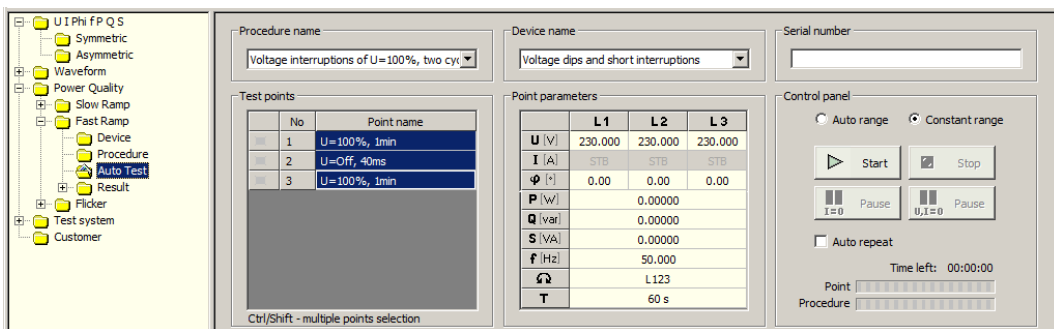

Fig.2.6. Autotest function with finished procedure
- wait until procedure is not finished (Fig.2.6).